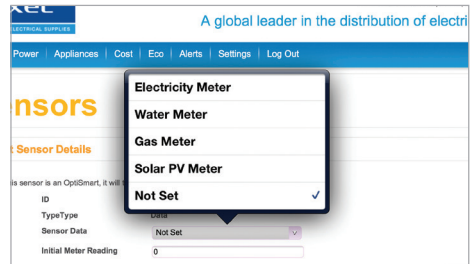

fig.25
5. Click on the 'Sensor Data' drop-down and select the type of meter your are monitoring (fig.25).